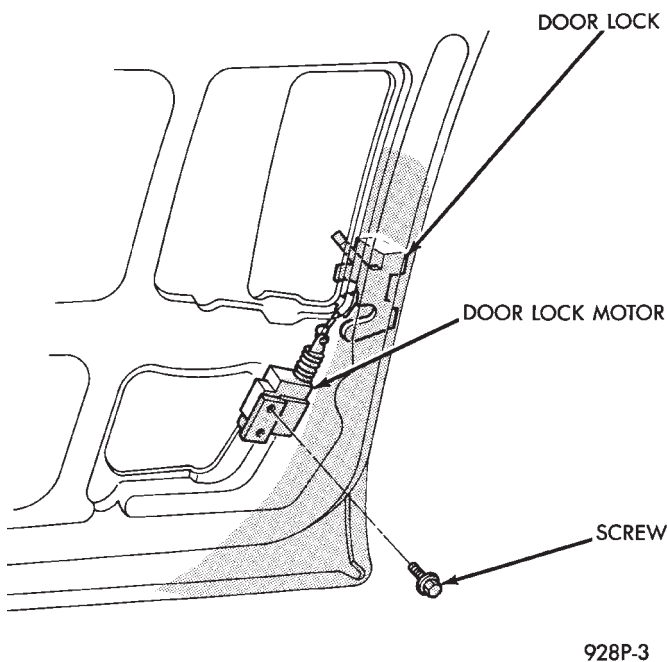

Fig. 4 Front Power Door Lock Motors – AA, AG, AJ and AP Bodies
- (1) Remove inside door release handle, window regulator handle, if equipped and door trim panel.
- (2) Roll door watershield away from lower rear corner of door to reveal inside panel access opening.
- (3) Disconnect link at the motor as required (Fig. 4 through 7).